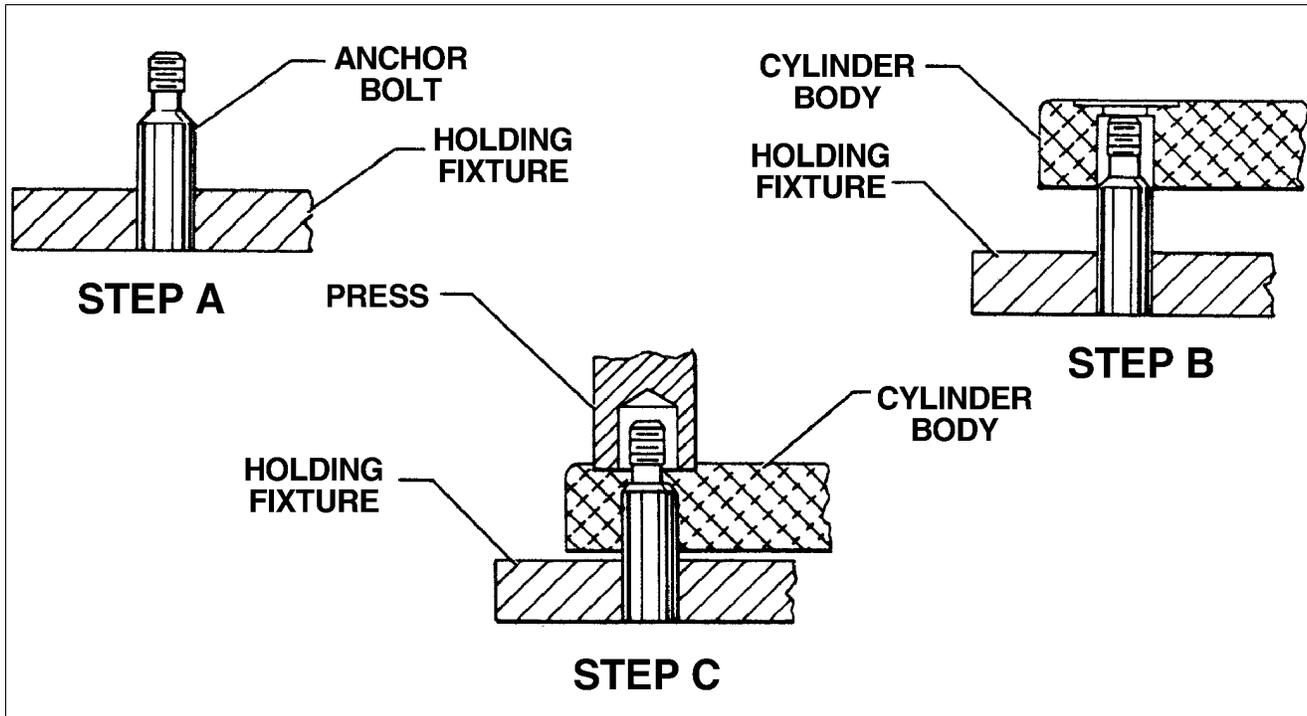

Figure 32-21. Installation of Anchor Bolt
- (1) Support anchor bolt in a holding fixture. (Refer to Figure 32-21, step A.)
- (2) Align cylinder body over anchor bolt. (Refer to Figure 32-21, step B.)
- (3) Use a suitable arbor press and apply pressure on spot face directly over anchor bolt hole. (Refer to Figure 32-21, step C.)